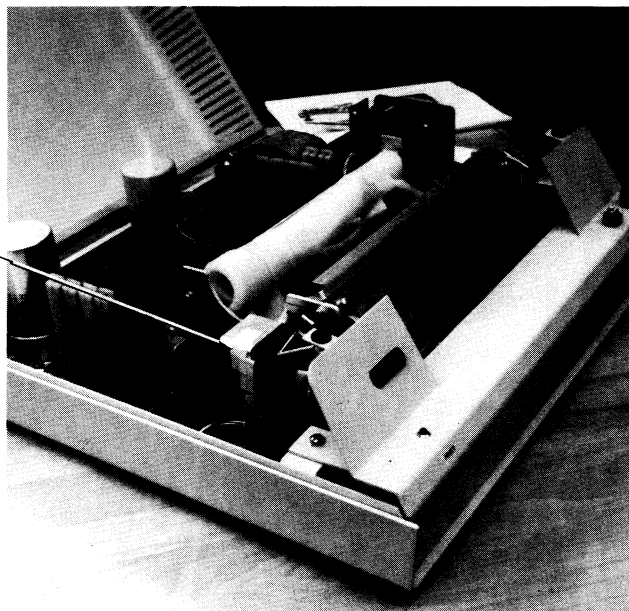

Figure 4. Inserting Paper Roll
2. Remove paper roller and insert into paper roll. Do not remove tape as indicated (see Figure 4).